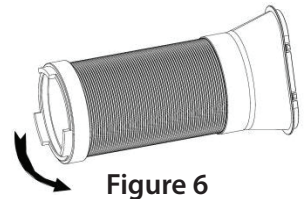

Figure 6
- Connect the exhaust pipe assembly with the round joint (as shown in Fig. 6).